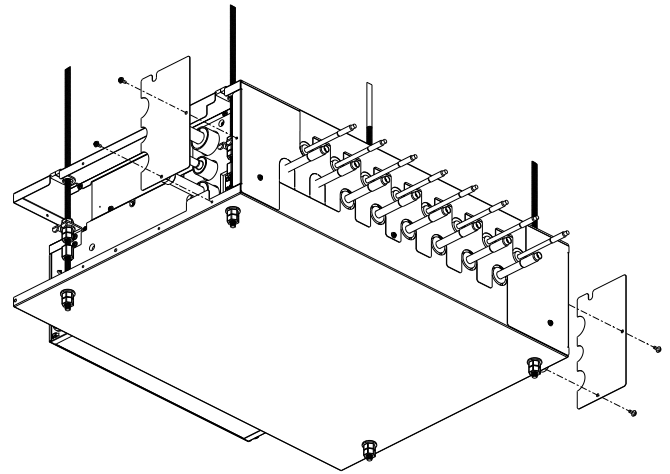

FIGURE G.3
2.2 Install the 2 side extensions panels (Item 6) on the left and right sides of the enclosure. Fasten them with x2 M5 screws (Item 9) in the provided locations. (Refer to Figures G.3 and G.4)